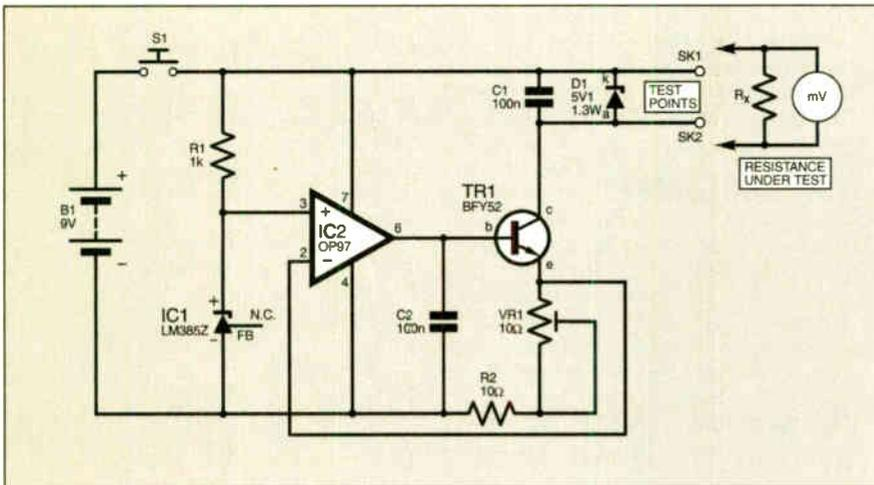

Fig.2. Full circuit diagram for the Low Range Ohmmeter Adaptor Mk2.
*Fig.2. How the normally open and closed poles of a relay are designated. The contacts are shown in the “de-energised” state. The relay coil, when powered, causes the pole to move away from the n.c. contact to the n.o. contact instead.*
Usually relays have changeover (c/o) contacts with a moving terminal called the pole, which is the contact that is common to both the n.o. and n.c. circuits. Fig.2 shows the circuit schematic symbol for a relay with changeover contacts.
The circuit diagram for the Low Range Ohmmeter Adaptor Mk2, is shown in Fig.2. This has a voltage reference device, IC1, to provide a consistent reference voltage of typically 1.26V. This voltage is passed into the non-inverting input (pin 3) of op.amp IC2.